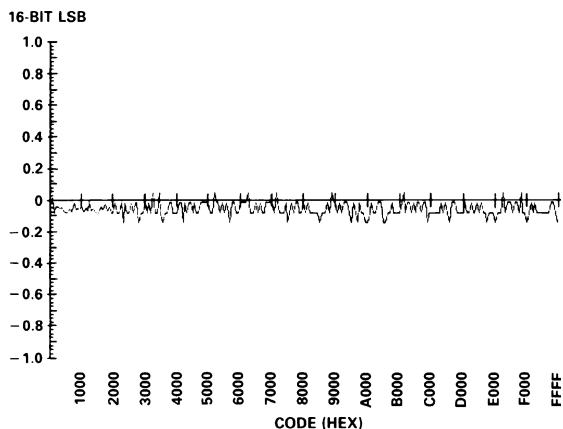

Figure 5. Typical DNL at Segment Boundary Transitions
**DIFFERENTIAL NONLINEARITY:** DNL is the measure of the change in the analog output, normalized to full scale, associated with a 1 LSB change in the digital input code. Monotonic behavior requires that the differential linearity error be less than 1 LSB over the temperature range of interest. For example, for a  $\pm 5$  V output range, a change of 1 LSB in digital input code should result in a 152  $\mu$ V change in the analog output (1 LSB =  $10$  V/65,536). If the change is actually 38  $\mu$ V, however, the differential linearity error would be  $-114$   $\mu$ V, or  $-3/4$  LSB. By leap-frogging the buffer amplifier taps on the first divider, a typical AD569 keeps DNL within  $\pm 38$   $\mu$ V ( $\pm 1/4$  LSB) around each of the 256 segment boundaries defined by the upper byte of the input word (see Figure 5). Within the second divider, DNL also typically remains less than  $\pm 38$   $\mu$ V as shown in Figure 6. Since the second divider is independent of absolute voltage, DNL is the same within the rest of the 256 segments.